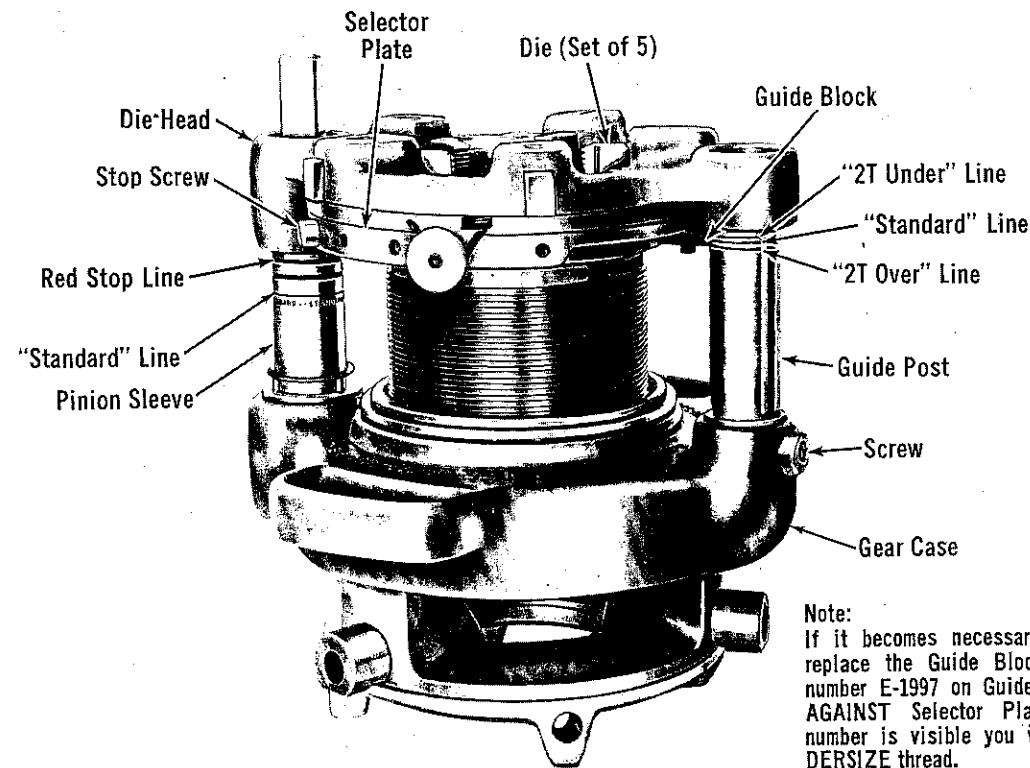

Figure 21. No. 141 Geared Threader showing Pinion Sleeve and Guide Post Reference Lines.
- 141 and 161** - Release Foot Switch when red "STOP" line appears on Pinion Sleeve (Fig. 21).
141 and 161 - Release Foot Switch when red "STOP" line appears on Pinion Sleeve (Fig. 21).
Grasp Workholder and turn square end of Drive Shaft or turn Gear Case by hand to respective reference lines on Guide Post (Fig. 21).
Changing Guide Post for Straight or Tapered Threads (Fig. 21)
1. Remove Stop Screw (Fig. 21) from Selector Plate.
3. Remove worn set of Dies (Fig. 21) and insert new Dies.